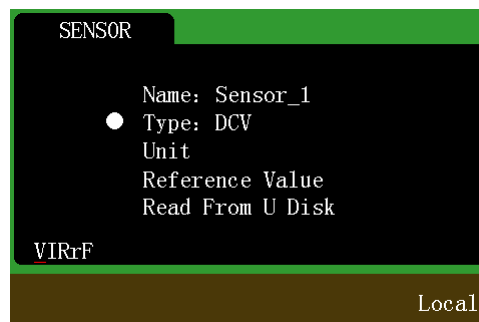

Figure 5-27 Sensor item type selection
2. When the dot cursor stays at "Type", press the left / right arrow key or the Enter key to select the type of measurable value of the sensor, as shown in Figure 5-27. In this interface: